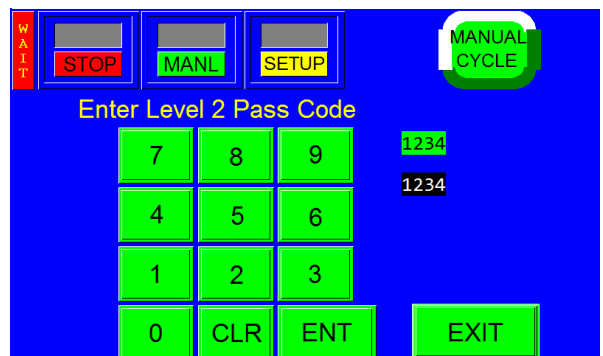

Figure 3-38
2. Level 2: This level pass code, when the pass code function is enabled, prevents the operator from accessing settings screens that affect the operation of the equipment. See Figure 3-38.